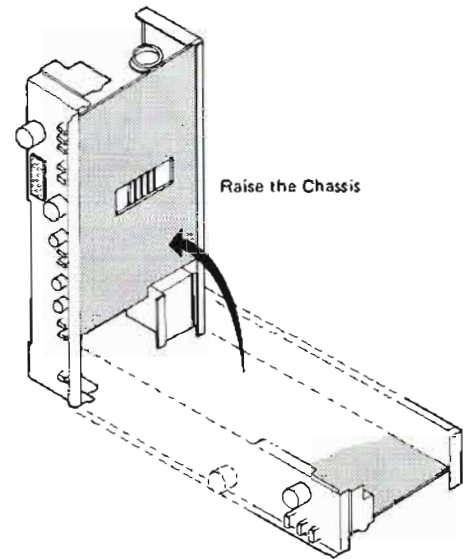

Fig. 6
2. Raise the chassis as shown in Fig. 6.